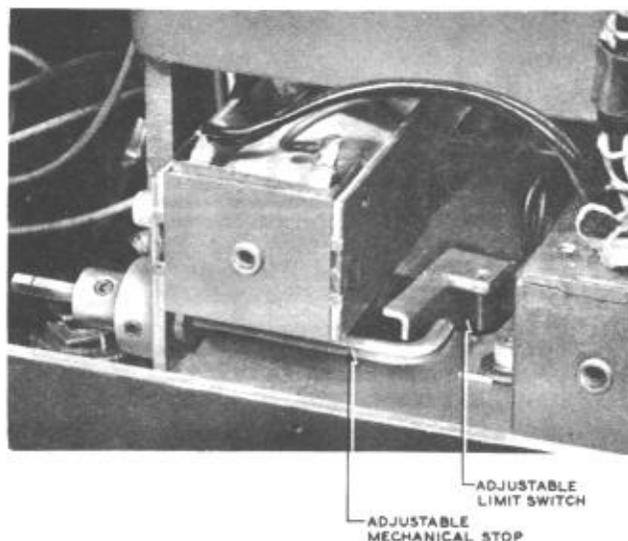

Fig. 12 - Adjustable Mechanical Stop and Adjustable Limit Switch
2. Move the adjustable mechanical stop until the desired time marking is at the tube entrance. Do not permit the adjustable mechanical stop to rotate as it is being moved to its new position. If it rotates it will not engage the adjustable limit switch (see Fig. 12).